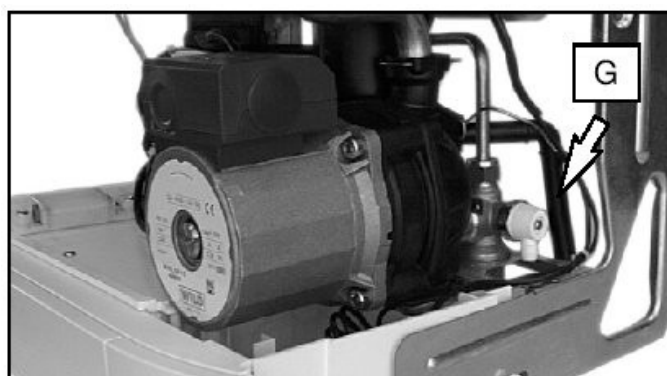

Fig. 5.24
7. Connect the pipe G (Fig. 5.24) from the pressure relief valve to the safety discharge pipework.